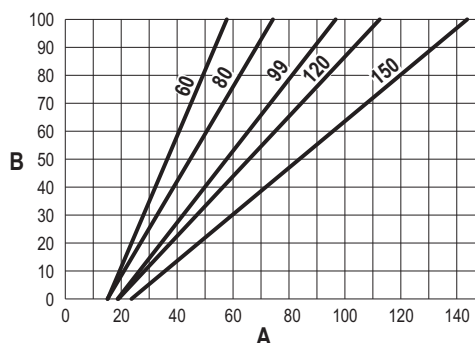

fig. 74
- Press the **contextual buttons 1 and 2** to increase or decrease the heating capacity (minimum = 00 - maximum = 100). See the diagram "Heating Capacity Adjustment" (fig. 74).